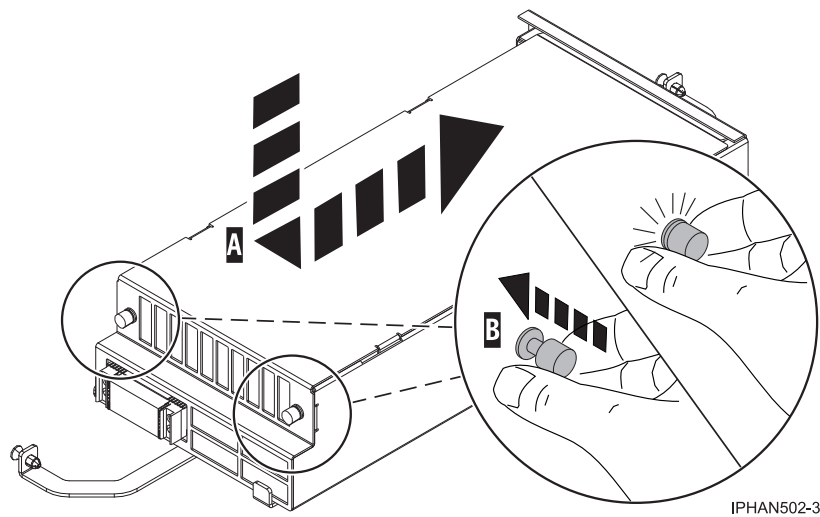

Figure 6. Replacing the system processor assembly cover
1. As shown in Figure 6, place the cover (A) on the processor assembly and then lock the two retention knobs (B).